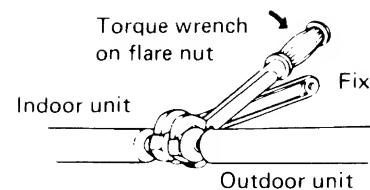

Fig. 25
2. Flare nut on large dia. tube should be torqued to 510 ~ 550 lbs. in. Flare nut small dia. tube should be torqued to 130 ~ 170 lbs. in. Fig. 25